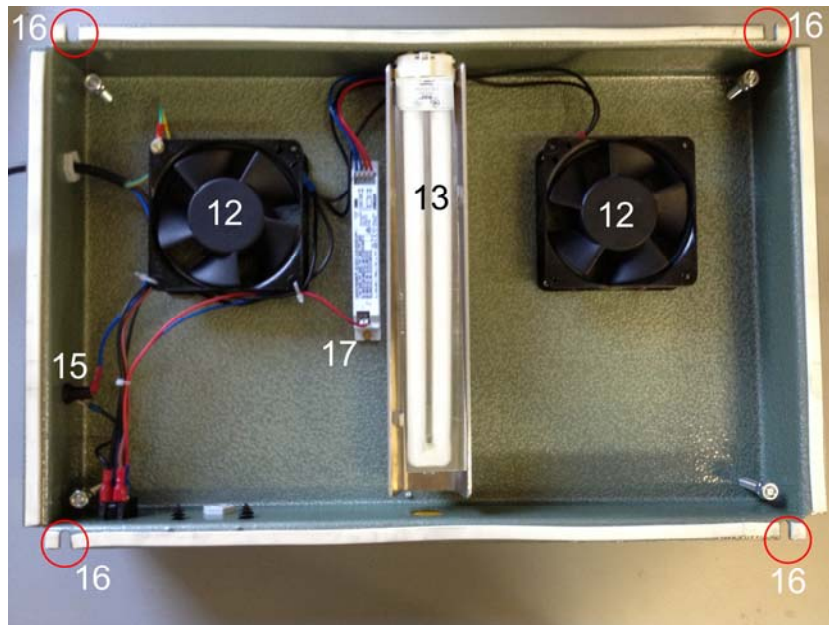
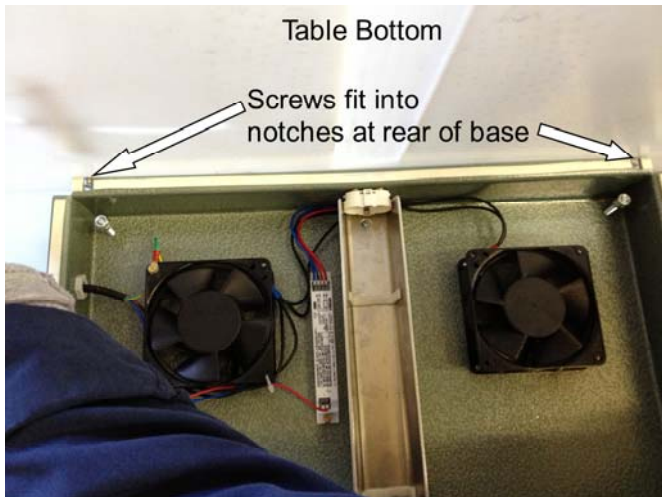

Figure 2
Figure 3
12. Fans (2)
16. Notches (2 in the front and back side with red circles on figure 2)
1. Remove the light bulb (13) from the box and placed it, in the center of the channel then push it into the socket as shown in Figure 2.
2. Remove the Cutting jig (14) from the base
3. Align the screws in the back of the table/cutting surface (1) and the L handles (19) in the front with the base notches (16) (see Figure 3).